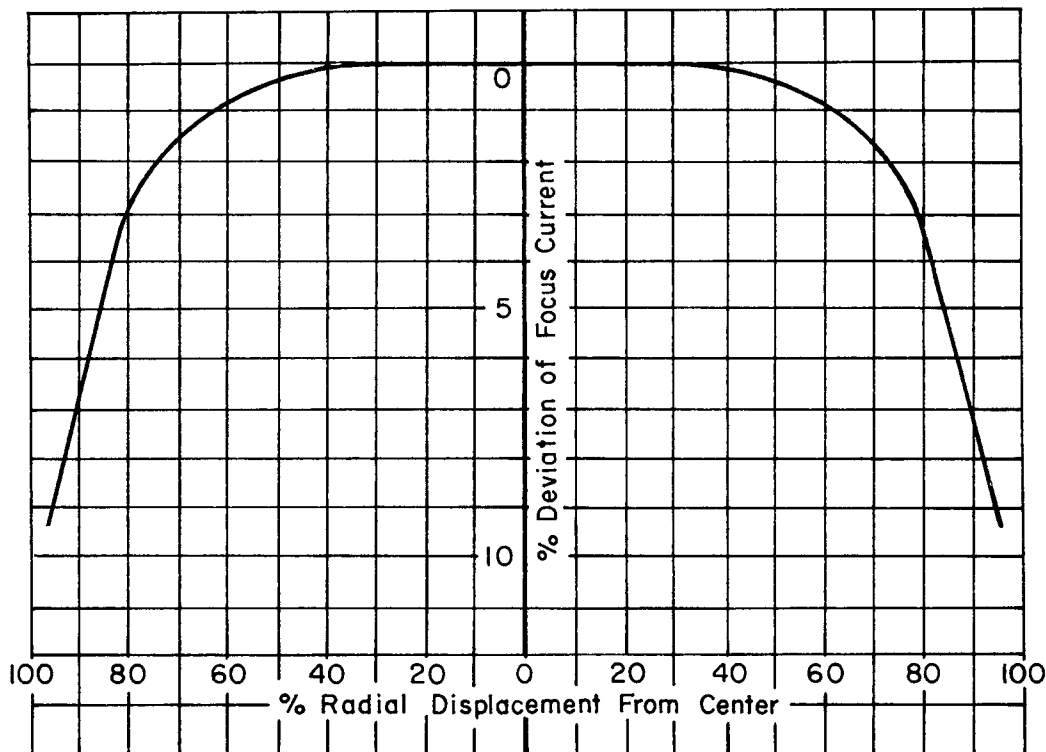

FIGURE 4
**RESOLVING POWER** — The resolution of the storage tube at the 50% modulation level is usually in excess of 800 TV lines across the diameter and is obtainable when the minimum current for writing a fully modulated signal is employed with max. limit of anode potential and the focus coils designed to minimize astigmatism. Resolution is also dependent on the orientation of the focus coil with respect to the gun, and the sharpness of focus across the storage screen. Therefore, for applications requiring optimum resolution, dynamic focusing is often needed. (Typical correction curves are shown in Figure 4.)